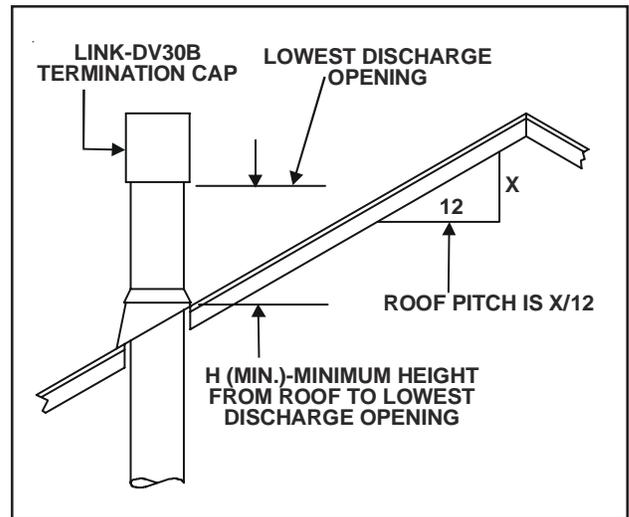

FIGURE 5
**WARNING:** A 12-inch (305mm) minimum chimney and/or flue height above the roof top is necessary in the interest of safety. See Figure 5.